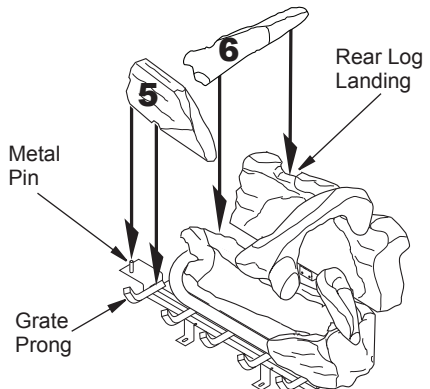

Figure 45 - Installing Logs No. 5 and No. 6
5. Place log #5 (base log) onto front left part of grate making sure notch and hole fit over metal pin and prong of grate. See Figure 45.
6. Place log #6 (left log) onto rear log landing and resting it on top of front log. See Figure 45.